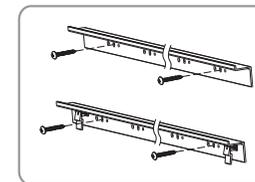

Figure 19
- a) Wood wall mounting: to fix the brackets onto the wall using 4 provided Wooden screws $\varnothing 5 \times 40$, two screws for each bracket. (Figure 19)